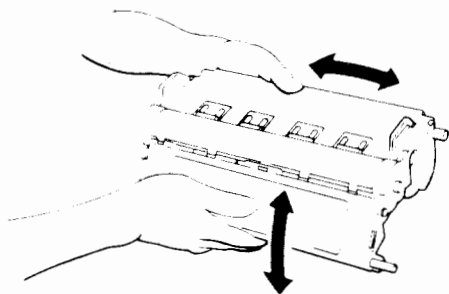

Figure 2-4 Distributing toner in the process cartridge
- c. Remove the cartridge from its carton and rock it gently as shown in Figure 2-4 to distribute the toner. Rock it from side to side and from front to back.